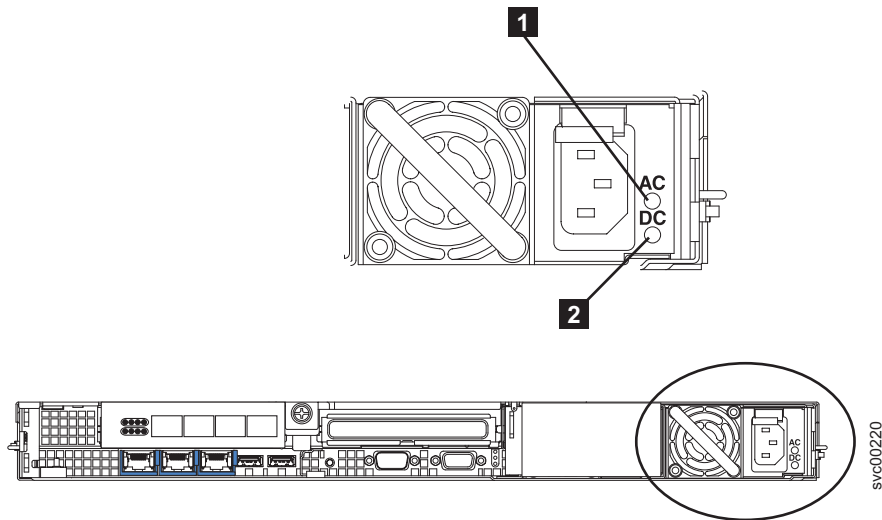

Figure 163. SAN Volume Controller 2145-8G4 ac and dc LEDs
4. Make sure that the ac power LED **1** and the dc power LED **2** (shown in Figure 163 on page 153) on the power supply are lit, indicating that the power supply is operating correctly. The two green LEDs are next to the power-cord connector.